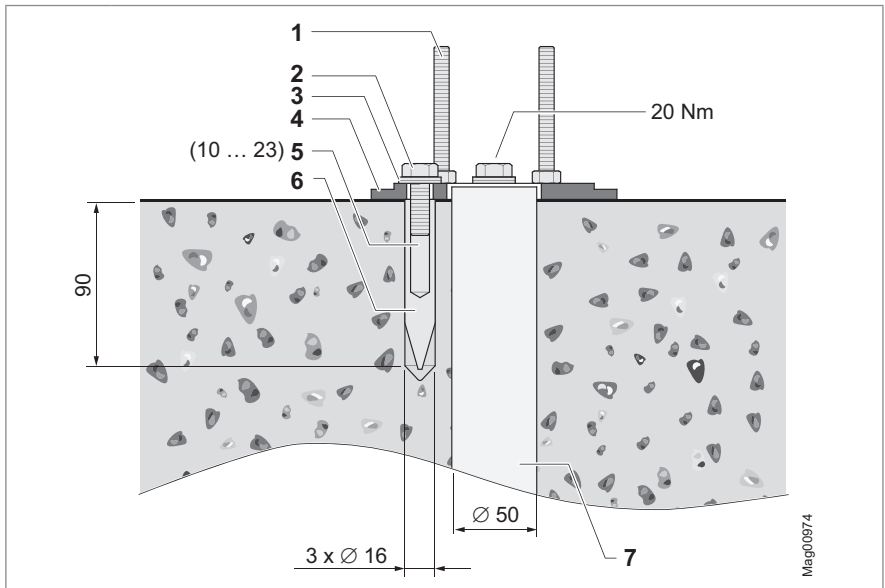

Fig. 18: Overview mounting variant "Direct mounting"
3. Bore holes for the sleeves with inner thread. ↗ Page 45, Fig. 18.